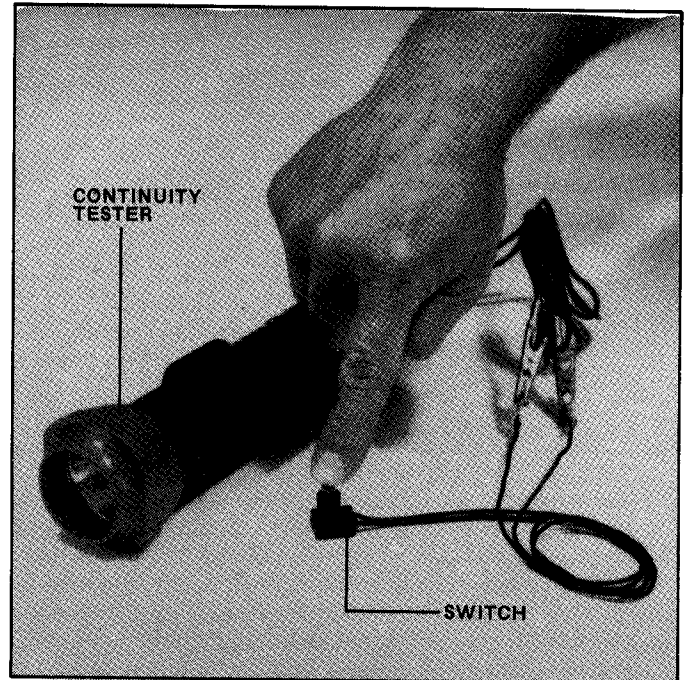

FIGURE 8.1
8.1 Disconnect switch from the ignition module. Test the switch for continuity and function with an ohm meter or continuity tester. See Figure 8.1